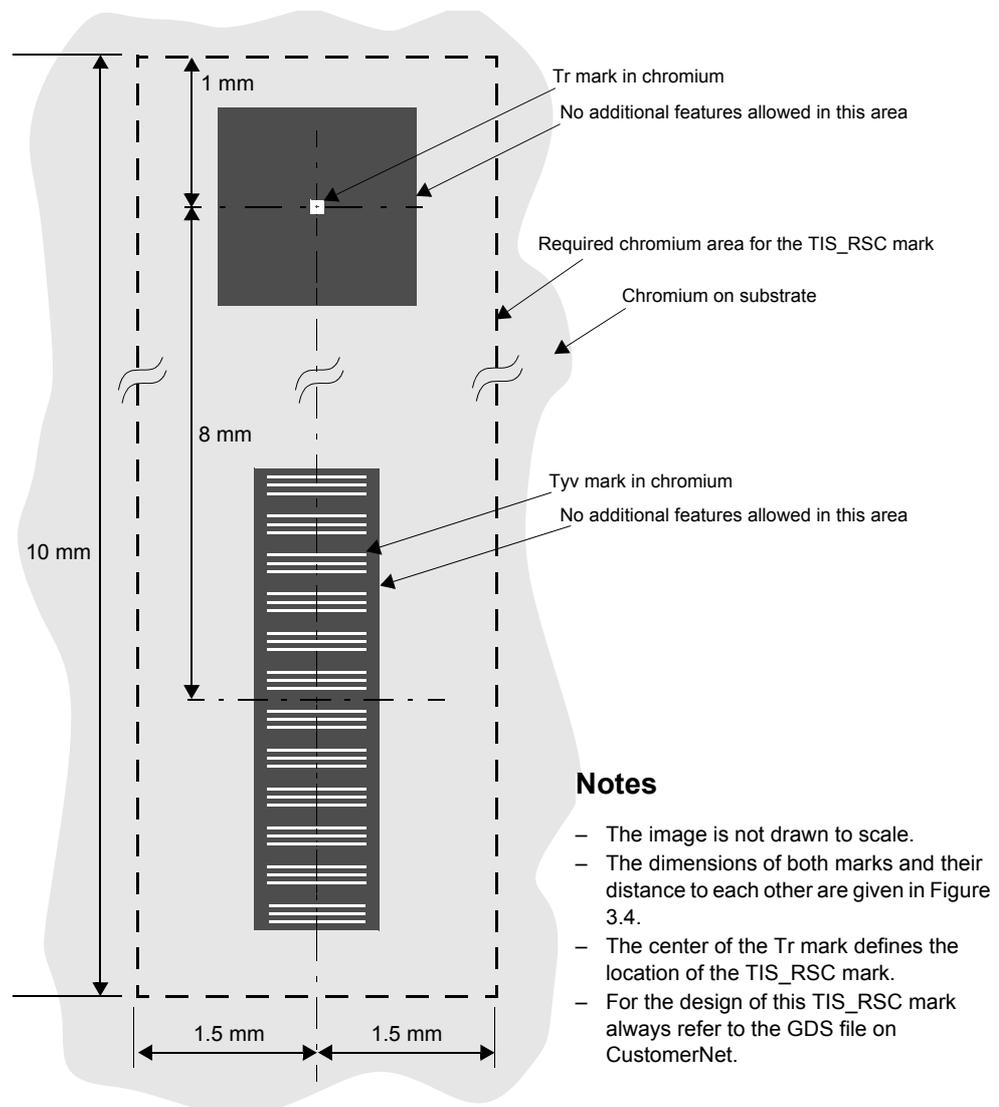

Figure 3.5 The vertical TIS_RSC mark
2. The second mark type is found in Y-direction ('vertical') on the left and the right side of the image field. The layout of this mark (see Figure 3.5) is a part of the standard TIS_RBA mark. The RSC mark consists of two parts of the TIS_RBA mark:
The vertical TIS_RSC marks require to be in a chromium area (see Figure 3.5) of 10 mm x 3 mm. Some third-party features are allowed overlap with this chromium area. Note that this overlap has to be within specific conditions as explained in Chapter 3 on page 33. The two parts of TIS_RSC marks are also binary features with a required chromium background of the following size:
If the reticle is **only** used in **XT:1700i** and/or **XT:1900i** systems, the Tr mark (see Figure 3.5) itself does not need to be printed on the reticle. This results in less straylight from the reticle.